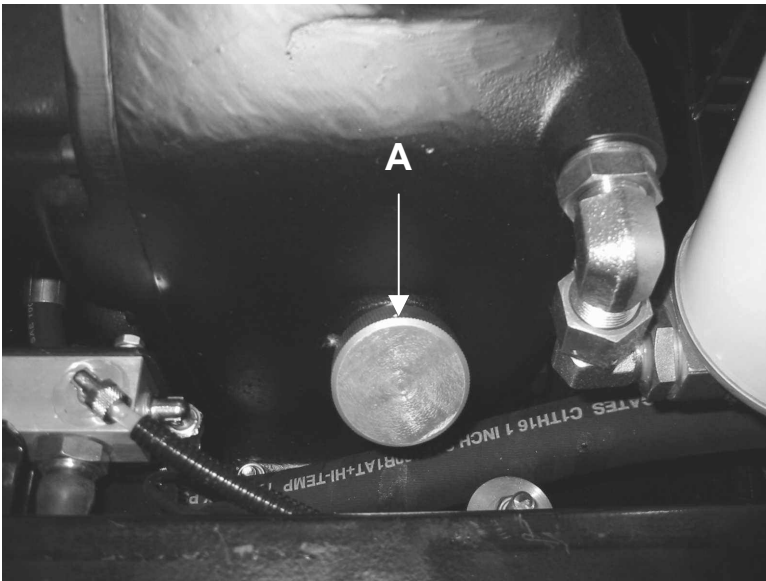

FIG. 8
- Before unscrewing the cap of the filler (Fig. 8 part A) to which the graduated level rod is fixed make sure that the system is no longer under pressure (**the manometer should indicate 0 bar**)